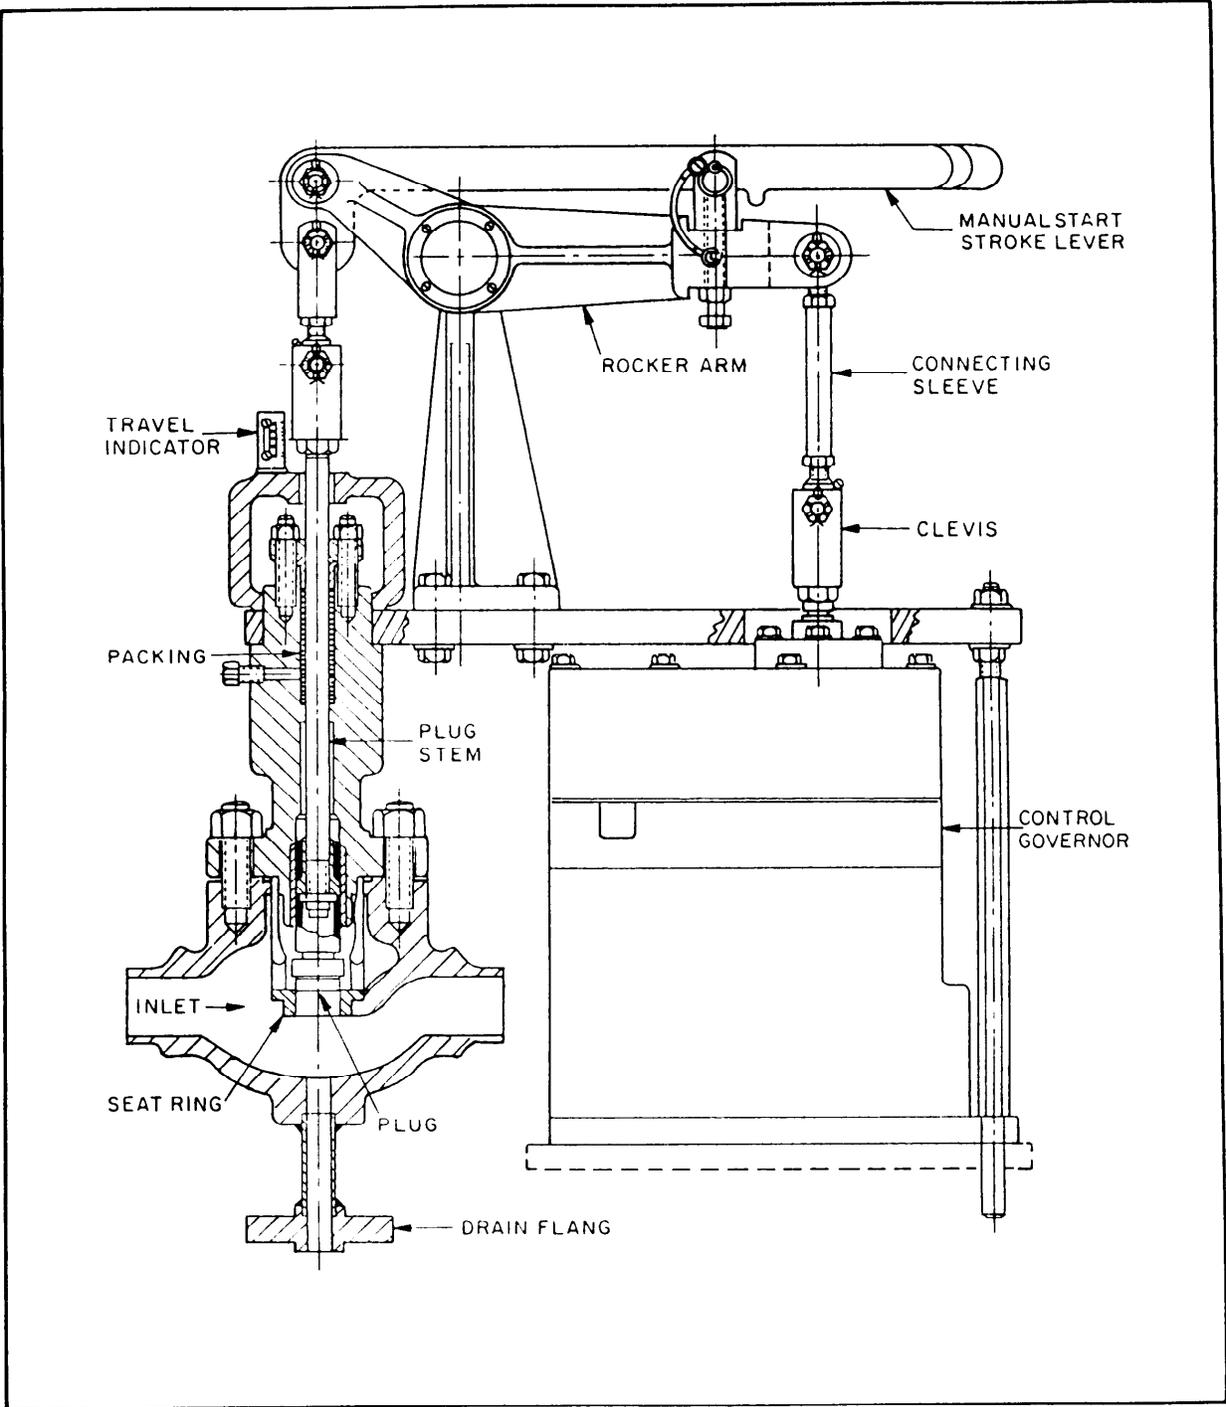

Figure 5-24.—Steam inlet valve.
**Steam Inlet Valve.**—The steam inlet valve (fig. 5-24) is a 2-inch, single-seated valve with a lever mechanism that is operated by the blower governor. Its function is to admit steam to the turbine and to control the speed of the turbine.